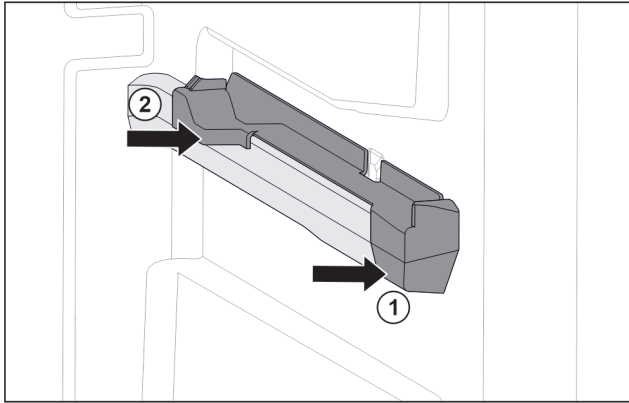

Fig. 142 Attachment on the right moulded rib
- Position attachment on moulded rib at the front. *Fig. 142 (1)*
- Press on attachment at the back. *Fig. 142 (2)*